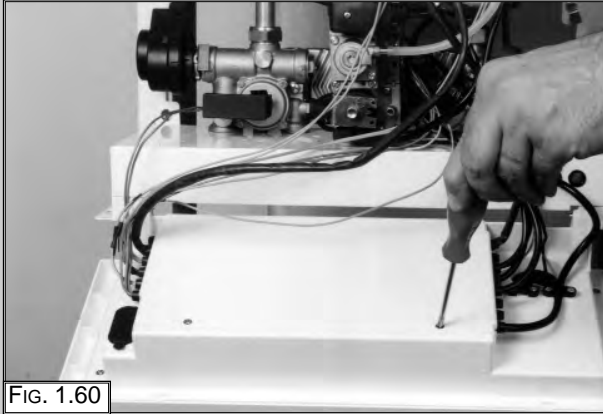

FIG. 1.60
1. Remove the inspection cover on the reverse of the control panel (FIG. 1.60);